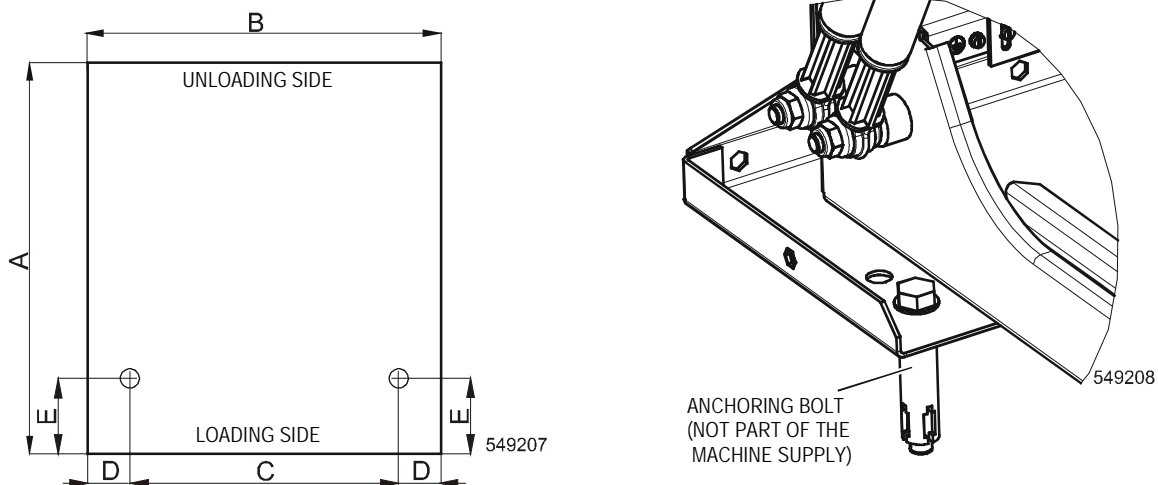

Figure 7
- Drill 2 holes of diameter 20 mm / 0.78" and depth 95 mm / 3.74" in the positions shown (Figure 7) for the anchoring bolts (on request).